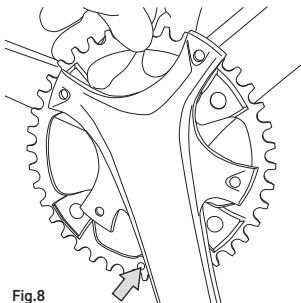

Fig.8
- **FOR EKAR:** Position the new chainring on the crankset support, making the pin on the chainring align with the hand crank (Fig. 8).